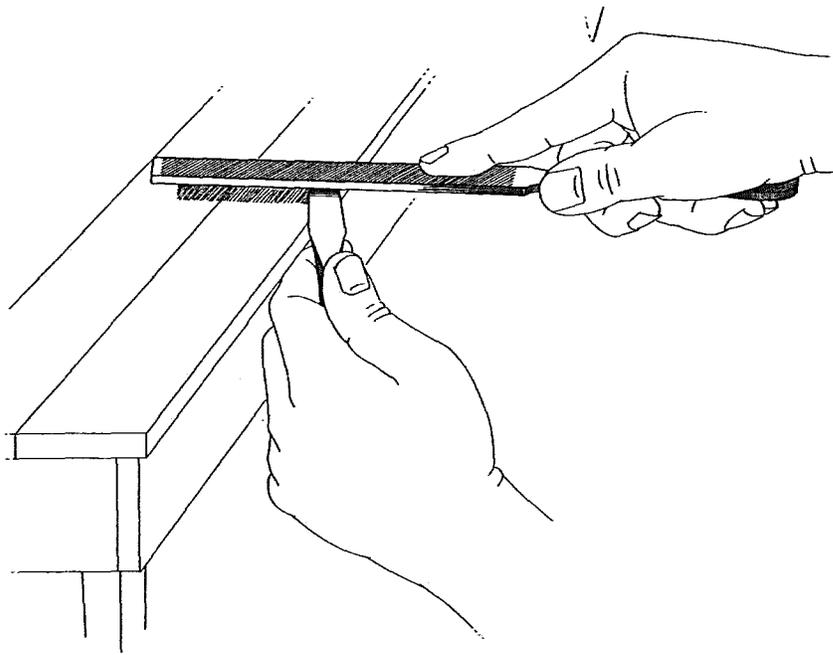

Fig. 6
5.09 The tip should be squared first. If a vise is available place the screwdriver in the vise as outlined in 5.07. If a vise is not available hold the blade of the screwdriver perpendicular to the edge of the workbench using the index finger to steady it (see Fig. 6). Grasp the file securely so that it can be easily steadied and its movement controlled at all times. Move the file forward and parallel to the top of the workbench, applying sufficient pressure for the teeth to cut the metal. The pressure should be evenly distributed and maintained throughout the forward stroke. On the